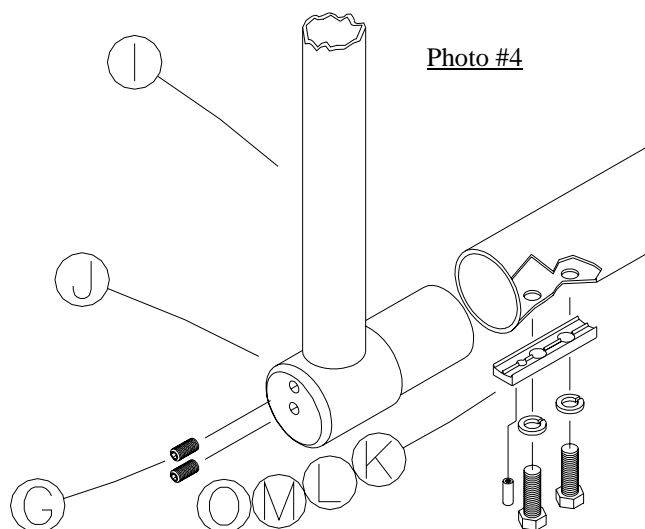

Figure 4
10. Confirm that the *Crossbar* (E) is perfectly centered on your pole and playing surface, make any necessary adjustments now. Also, check that the two holes on each end are facing the ground.
11. Install the *Uprights* (I) into the *Crossbar End Caps* (J) using the $1/2'' \times 1/2''$ *Set Screws* (G). Make sure that the uprights are seated into the bottom of the pocket provided, then tighten set screws. See Figure 4.
13. Insert *Crossbar End Cap* (J) with *Upright* (I) attached into one end of *Crossbar* (E), leaving the top end of the upright resting on the ground. Make sure that the end cap is inserted completely into the crossbar. Insert a pole or pipe that is at least $1\ 1/2''$ in diameter and $9\ 1/2'$ long into the bottom of the crossbar end cap and rotate crossbar end cap assembly around until uprights are positioned so you can see the threaded holes through the mounting holes in the crossbar. Use the $5/8'' \times 1\ 1/2''$ *Hex Bolts* (L), $5/8''$ *Lock Washers* (M), and the *Crossbar Washer Plate* (K) to attach end cap assembly to the crossbar, then tighten. See Figure 4 & 5. This assembly process requires constant contact between the $1\ 1/2''$ pipe and the crossbar end cap, **DO NOT under any circumstances remove the $1\ 1/2''$ pipe until the $5/8'' \times 1\ 1/2''$ Hex Bolts (L) are installed.** In addition it is important to maintain full insertion of the cross bar end cap to the cross bar during the rotation process. **DO NOT STAND DIRECTLY UNDER THE PLANE OF THE UPRIGHTS DURING ROTATION.** Repeat this process for the remaining upright assemblies. See Figures 4 & 5.